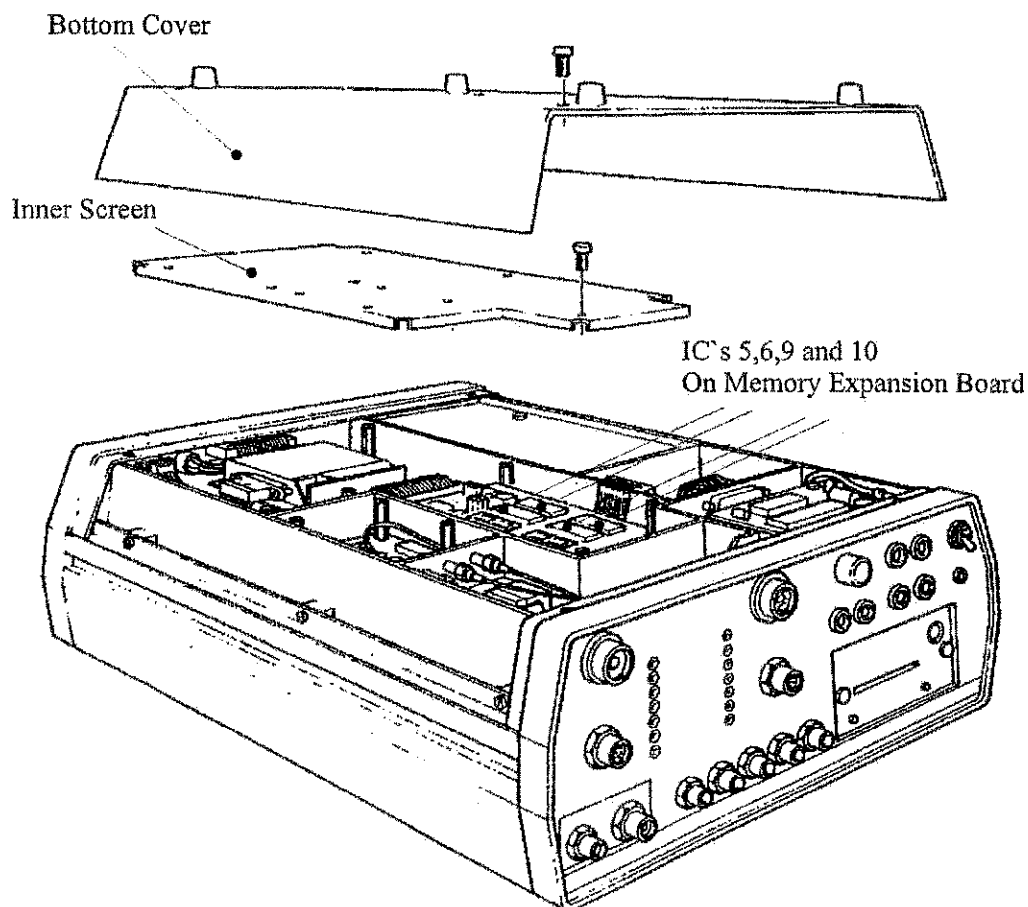

Fig 3 ATP EPROM Device Replacement
- 34.5 Remove the RIU bottom cover by removing the four retaining screws (Fig 3).
- 34.6 Remove the metal screen from the RIU chassis by removing the 11 retaining screws (Fig 3).
- 34.7 Remove ICs 5, 6, 9, and 10 from the PC Expansion Board IC sockets (Fig 3).